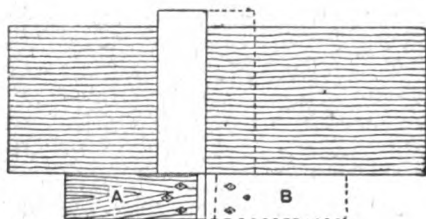

Fig. 1
**Testing a Try-square.**—Below is given a method of testing a carpenter's square. Shoot the edge of a piece of board quite straight, apply the square as shown at A (Fig. 1), and draw a line; then turn